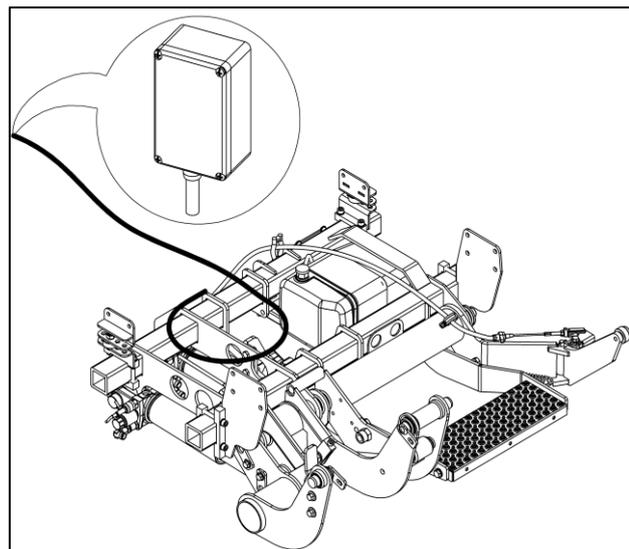

Fig. 17
- Route the control unit cable for service switch connection to the vehicle cargo area (Fig. 17).